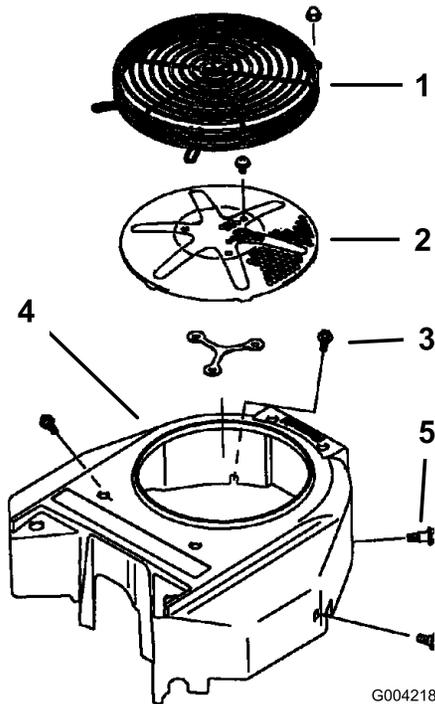

Figure 87
3. Remove the air-intake screen, the recoil starter, and the fan housing (Figure 87).
5. Install the air-intake screen, the recoil starter, and the fan housing (Figure 87).